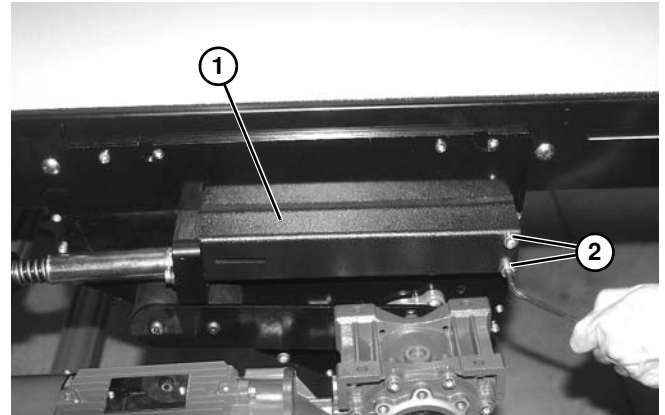

Figure 91
8. Install tensioning guard (**Figure 91, item 1**) and secure with two screws (**Figure 91, item 2**). Repeat on opposite side.